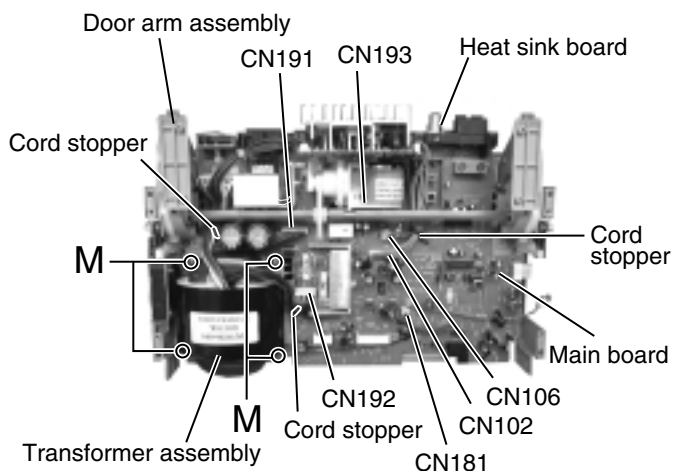

Fig.20
■ Removing the power amplifier board (See Fig.20 and 21)
■ Removing the transformer assembly (See Fig.20)